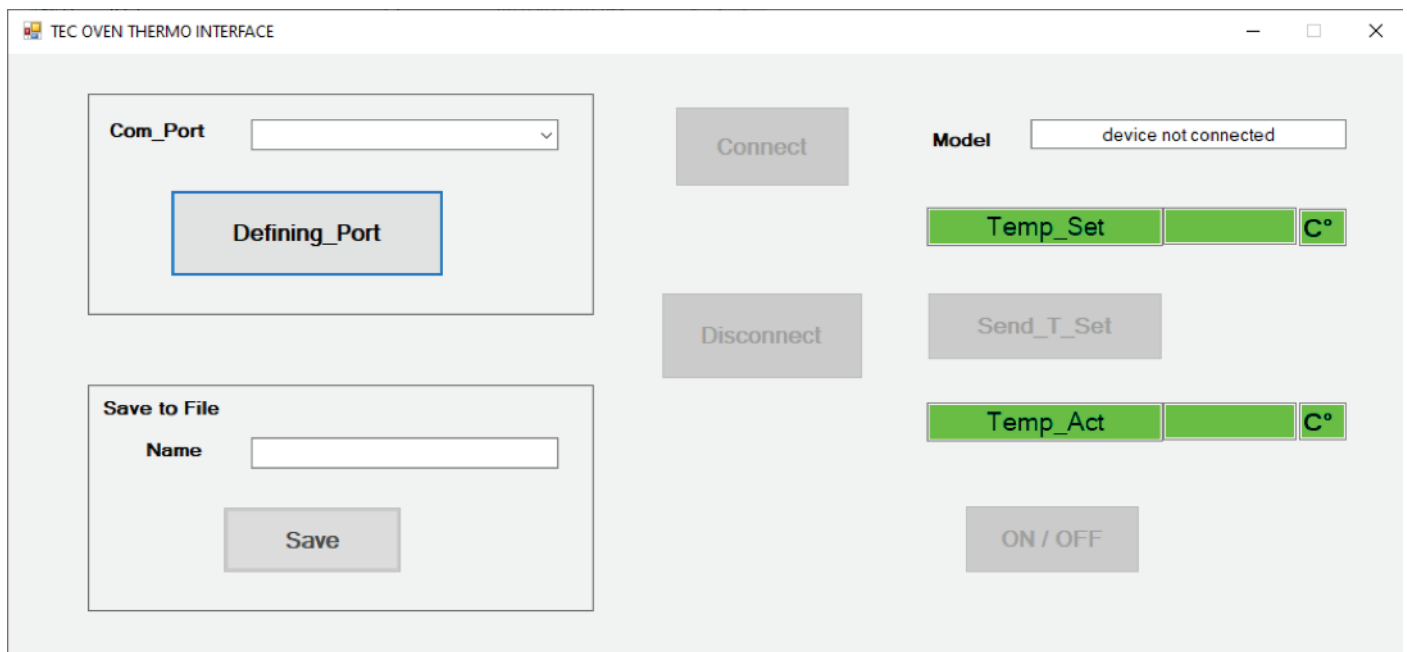

FIGURE 4. User Interface Software
- Double click on **TEC OVEN INTERFACE** open user software communication (figure 4)
- You must press OK button in this message, while the message **'Missing port'** appears in the **Com\_Port** window, and the **Model, Temp\_Set, Temp\_Act** windows are cleared. (See figure 4)